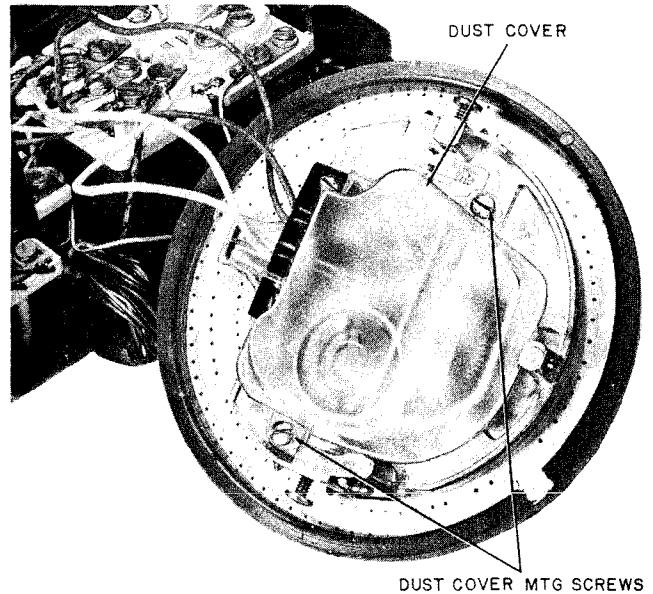

Fig. 25—7-Type Dial Removed From Set
(2) Remove dial from dial mounting (Fig. 25). It is not necessary to disconnect spade tip conductors.